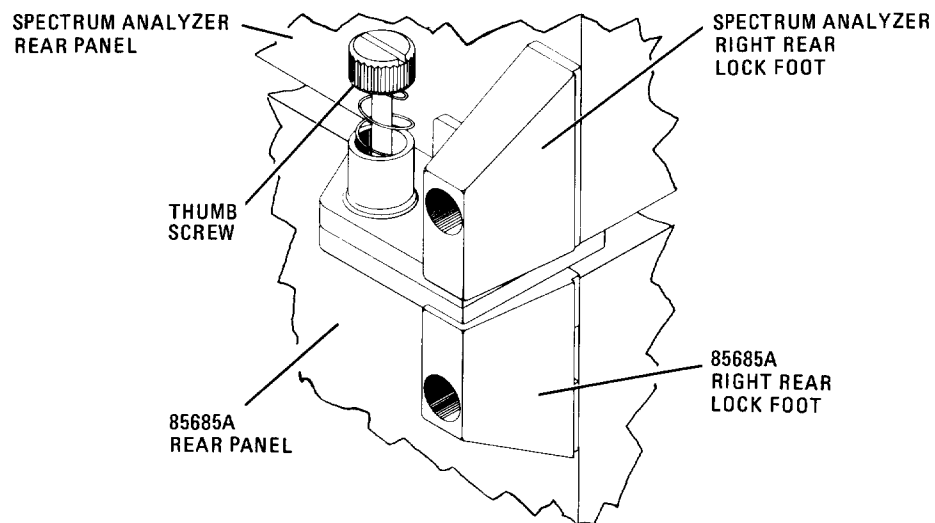

FIGURE 2-4. SECURING LOCK-FEET
6. Using the thumbscrews, secure the spectrum analyzer's new bottom rear feet to the preselector's top rear feet, as in Figure 2-4.